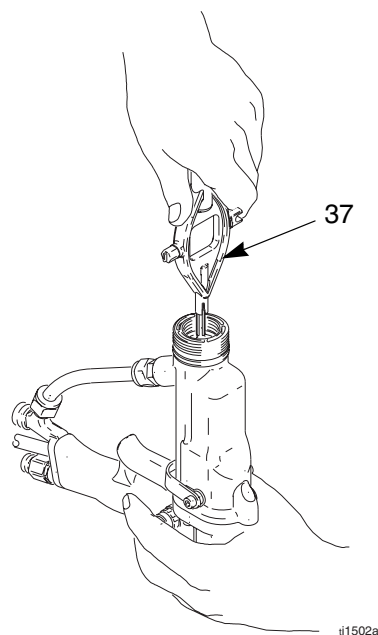

Fig. 10. Electrode Replacement
3. Unscrew the electrode (29) with the multi-tool (37). Hold the packing rod end (26h) to prevent it from turning. See FIG. 10..